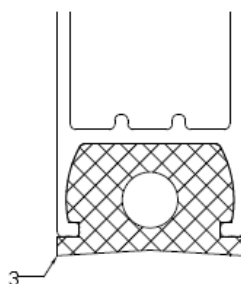
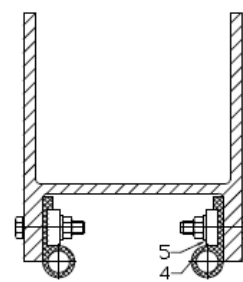

Figure 18
Figure 17
- Step 4: Remove and replace the bottom seal (see Figure 18, part#3). Some logs include bolted bottom seals (See Figure 17, part#4) by means of a stainless steel retainer (See Figure 17, part#5)